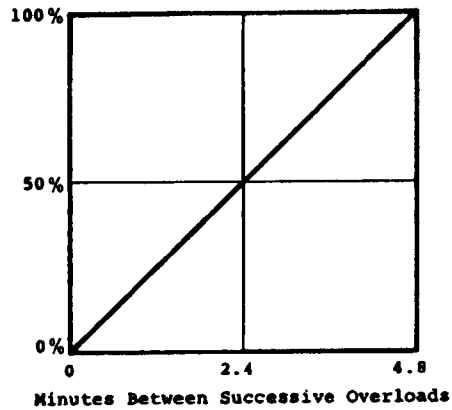

Figure 6
An example of the composite Time-Current Tripping Characteristic for a relay equipped with the 49, 50, and 51 elements is given in Figure 6. For this example the relay settings are: pickup tap at 120% of motor full load current; time dial (49) set at 2 minutes; time dial for stall unit at 5 seconds; and instantaneous pickup at 7.2 times full load amperes.